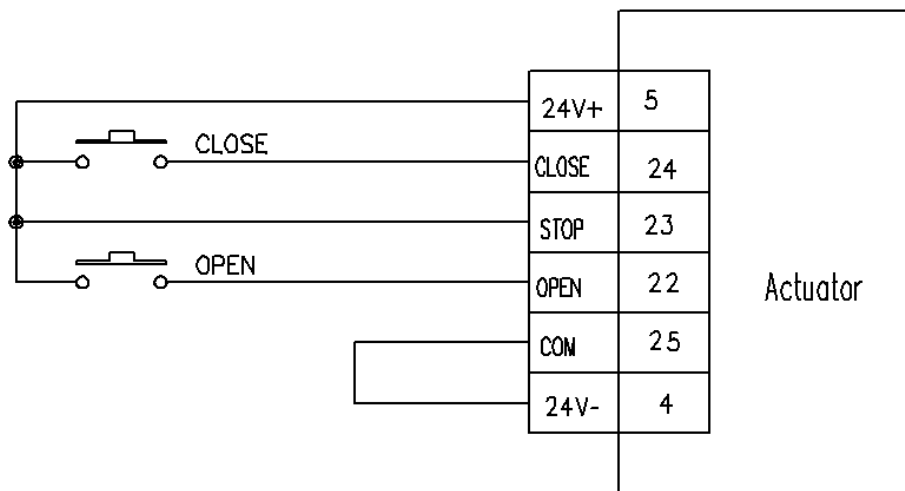

FIG. 4-4
4.2.2.2 Open valve, close valve self sustain control (FIG. 4-4)